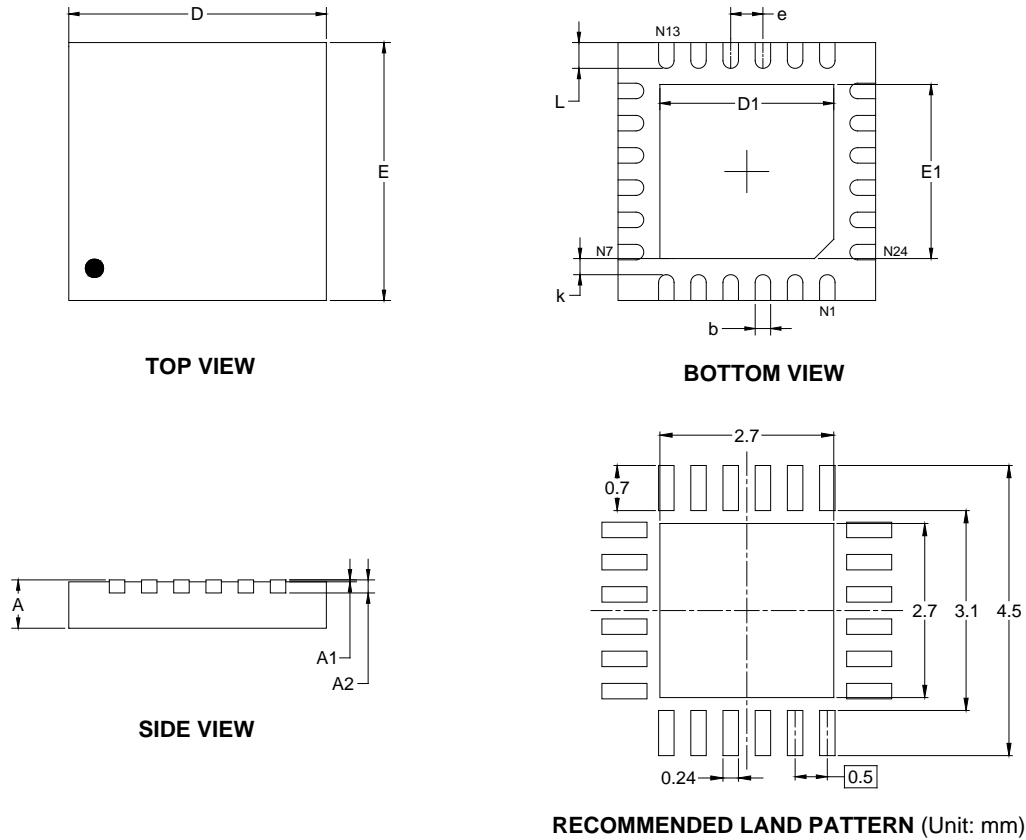

**Figure 20. The Paths and Loops Carrying High Frequency, DC Currents and Very High Frequency (for Layout Design Consideration)**
The switching node (SW) creates very high frequency noises several times higher than  $f_{SW}$  (1.5MHz) due to sharp rise and fall of the voltage and current in the switches. To reduce the ringing issues and noise generation, designing a proper layout is important to minimize the current path impedance and loop area. A graphical guideline for the current loops and their frequency content is provided in Figure 20. The following considerations can help making a better layout.